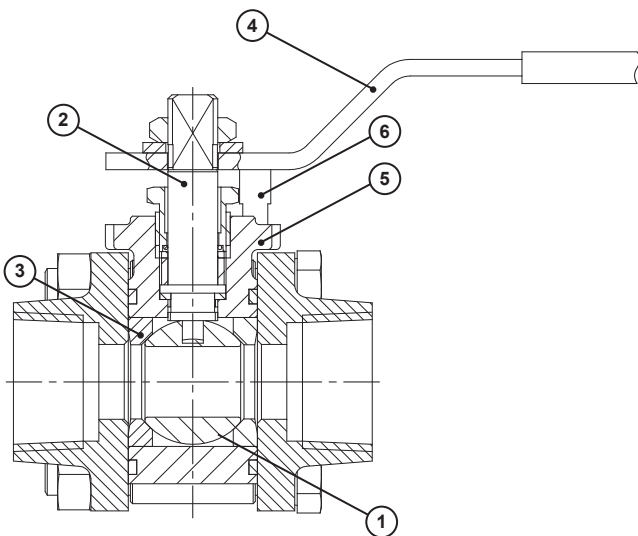
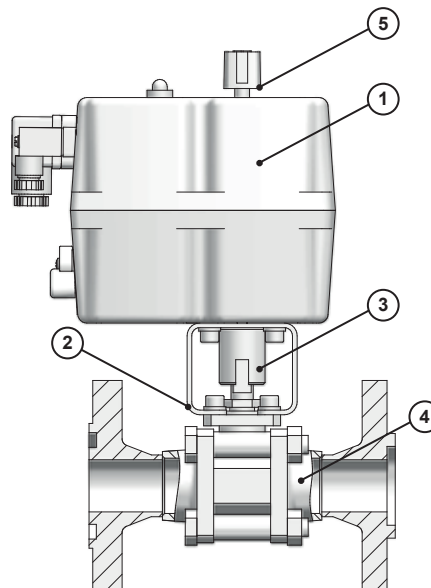

Fig. 1: Ball valve with internal thread
Fig. 2: Ball valve with drive
The control rod opens and closes the ball valve. The control rod is operated either via a manual handle (figure 1) or an electrical drive / actuator (figure 2). The connection between the ball valve and pipeline is made with a housing flange (5). This flange is attached to the ball valve in order to provide a connection for drives or stop pins (6), which are to limit the switch travel.
Possible drives are electrical swivel drives. The drive (1) is connected with the ball valve (4) via a metal bridge (2) and an adapter (3). Figure 2 shows such a ball valve.